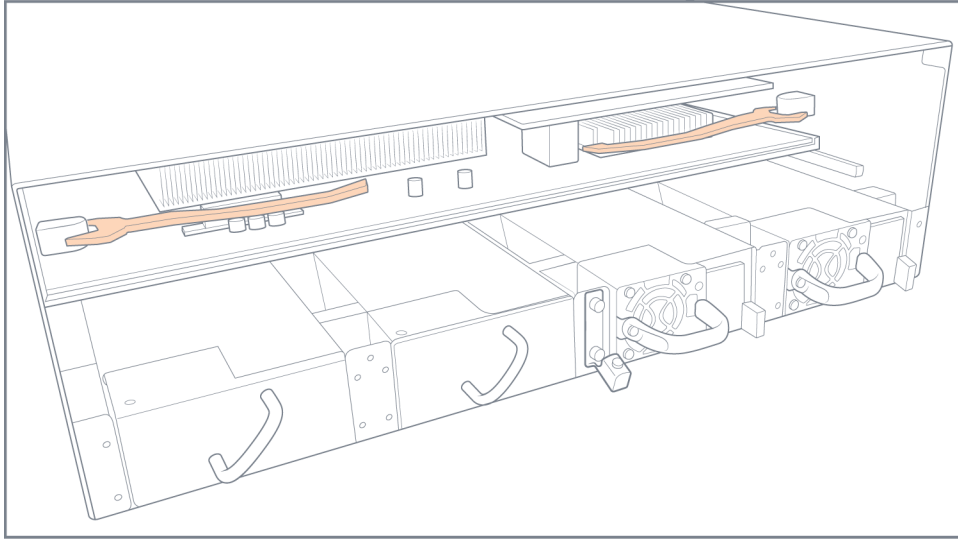

Figure 4-22: Control Card Seated
3. Seat the control card as shown in Figure 4-22 on page 88.